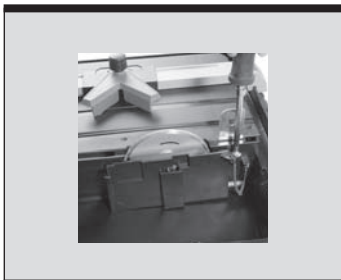

Fig 5
- Place the guard onto the metal bracket and fix in place using the screw and washer (Fig 5). Push the cover cap over the nut.